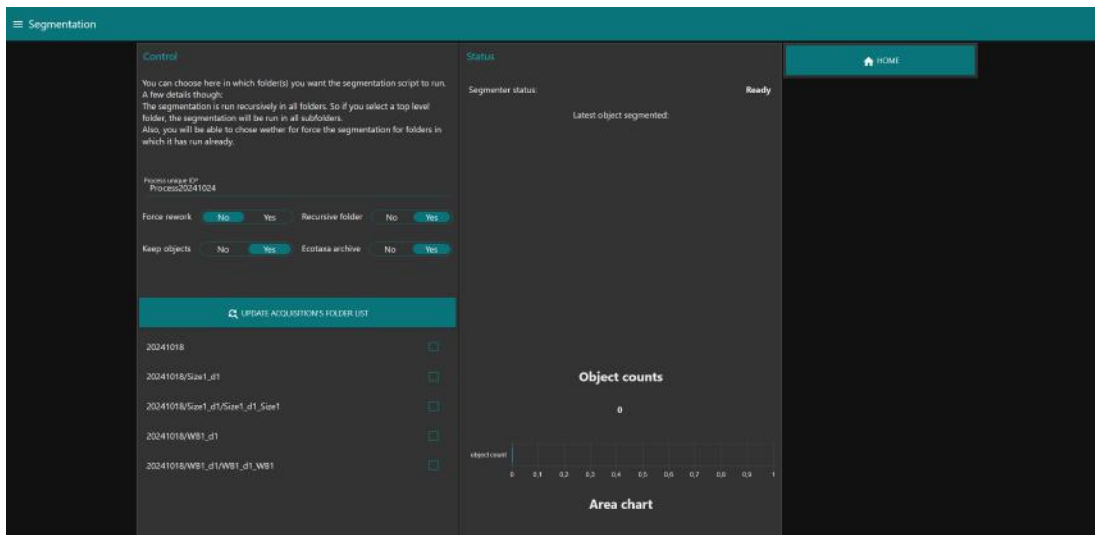

Figure 1: Where to find the folders containing the images to do the segmentation. **Do not forget to update the folder list.**
3. Setup the different options of the segmenter (Fig.1)